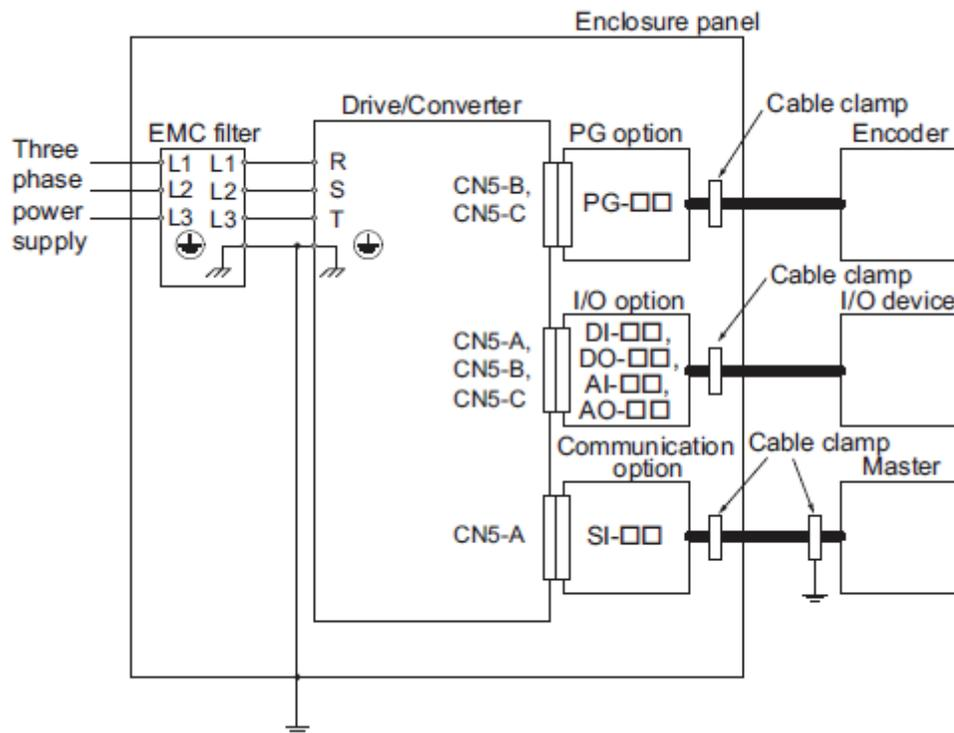

Figure 71 Option Installation for CE Compliance
2. Keep wiring as short as possible. Ground the shield according to **Figure 71**.